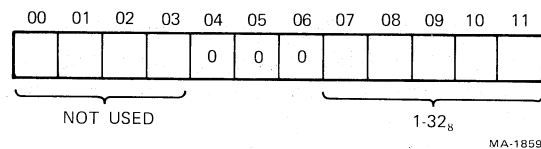

Figure 4-7 RX2SA Format (RX8E/RX28)
4.1.3.4 RX2SA – RX Sector Address (Figure 4-7) – This register is loaded to indicate on which of the 26 (1-26) sectors a given function is to operate. It can be addressed only under the protocol of the function in progress (Paragraph 4.1.4). Bits 0-3 are unused and are ignored by the control.